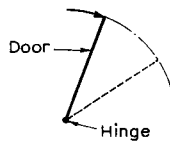

Fig. 2.32
**The moment of a force.** Fig. 2.32 shows a force being applied to a door. The door rotates about its hinge so that the force has had a *turning effect* on the door. Another way of saying this is to say that the door has a *moment* applied to it. The point about which the object turns is often called the *fulcrum*.